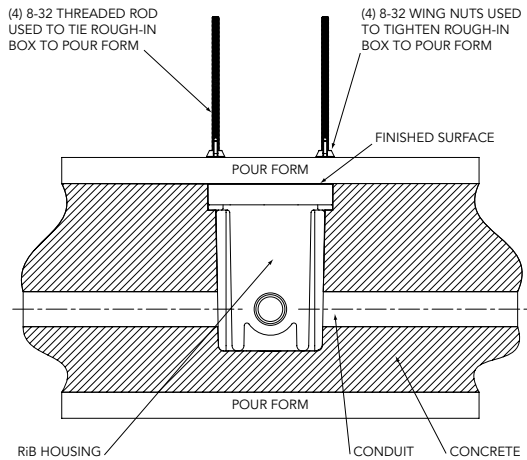

Figure 4
1. Install (4) threaded 8-32 rods (supplied) into RiB housing by piercing through vinyl label in specified location. Hand tighten until secure.
2. Attach RiB housing to pour form using (4) wing nuts provided so the front face of the RiB housing will be flush with the finished surface (fig. 4).
3. Connect conduit to RiB housing (fig. 4).
NOTE: Do not pump or drop concrete directly on top of the RiB housing (fig. 4).